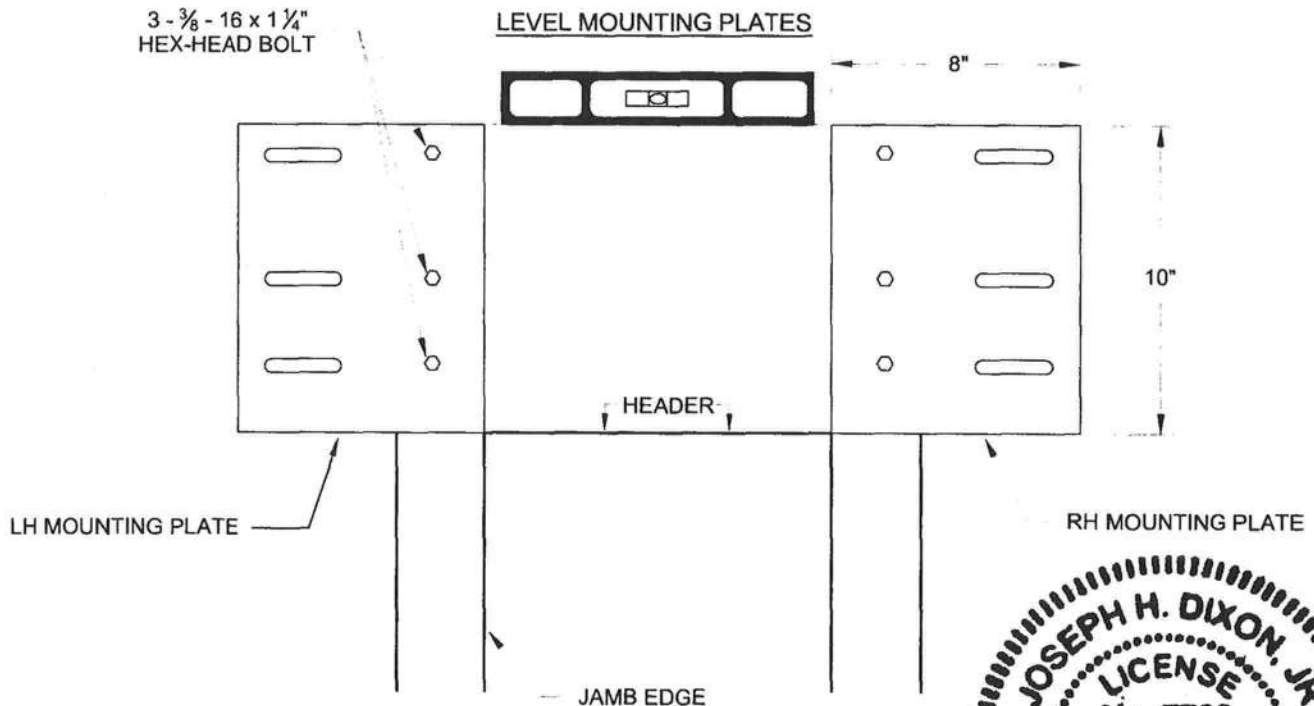

FIGURE 4: MOUNTING PLATE INSTALLATION
- ⇒ Position Mounting Plates where bottom edge is flush with header and inside edge is flush with jamb edge. See Figure 4.